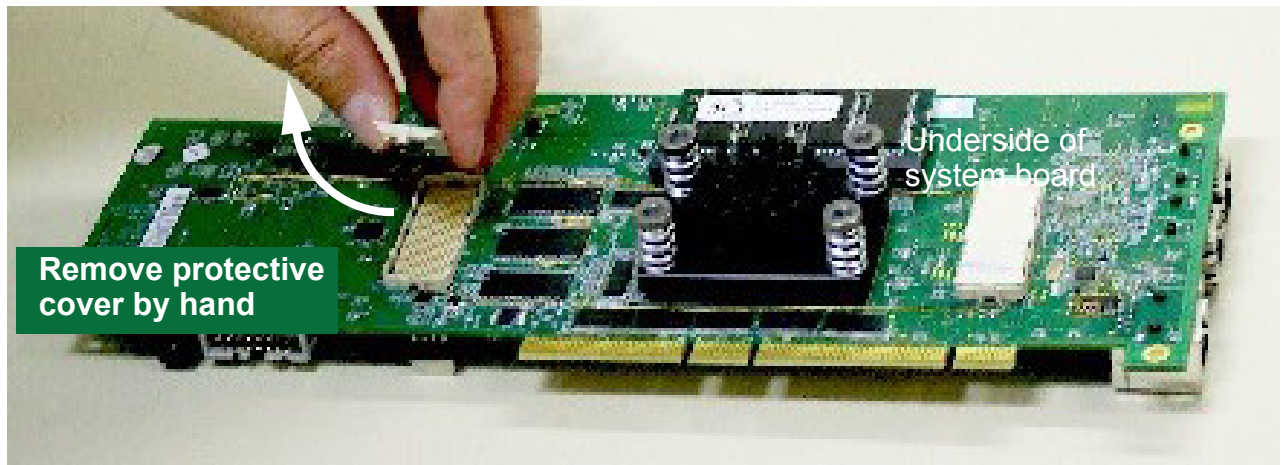

Figure 2-4. Remove Protective Covers from 300-pin connectors (underside of MPC8349EA MDS Processor Board shown)
1. Remove protective covers from the 300-pin connectors on the bottom side of the processor board (See Figure 2-4).